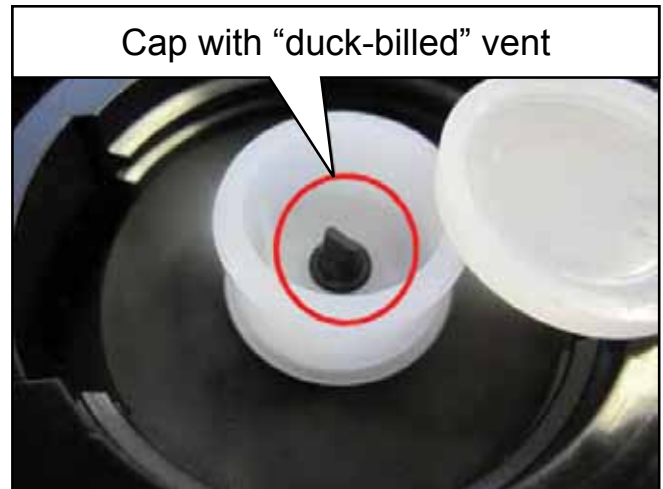

Figure 3. Cap with “Duck-Billed” Vent
3. If the inside of the cap has a rubber “duck-bill” vent (Figure 3), no further action is required.